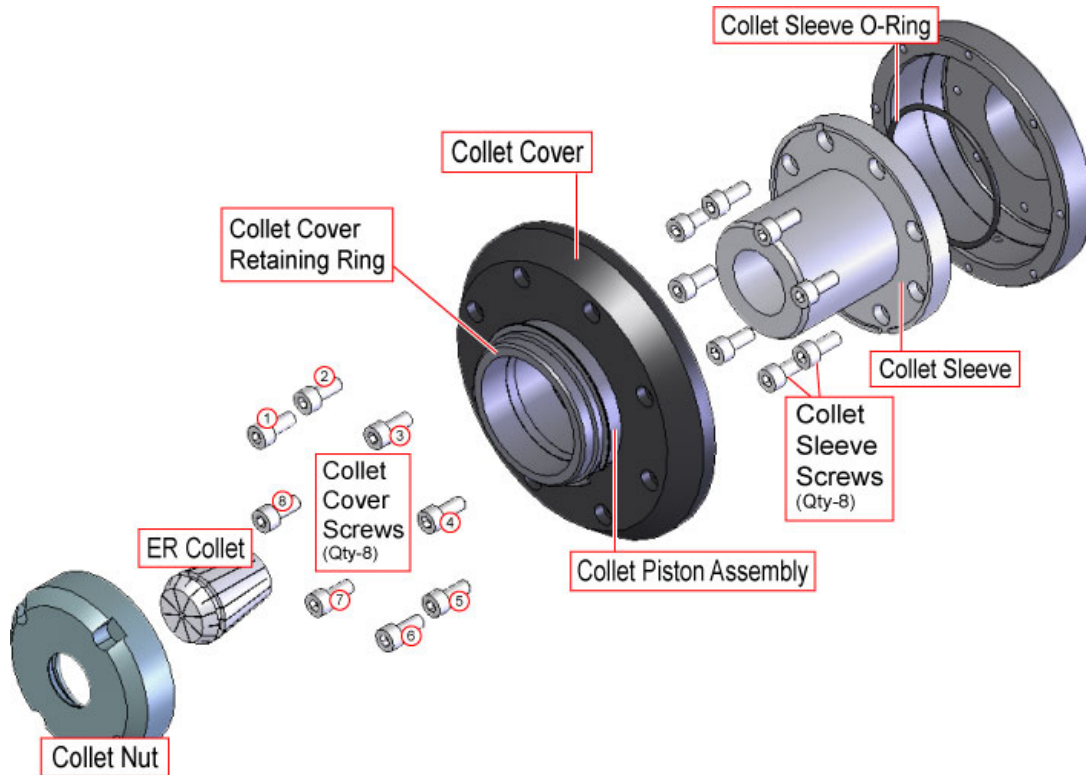

Figure 2-4: Collet Assembly Exploded View
- Step 5: Referring to Figure 2-4, remove every other collet cover screw. DO NOT remove all of the screws at once as the cap is under tension from several springs and will be damaged or cause bodily harm if removed without caution.